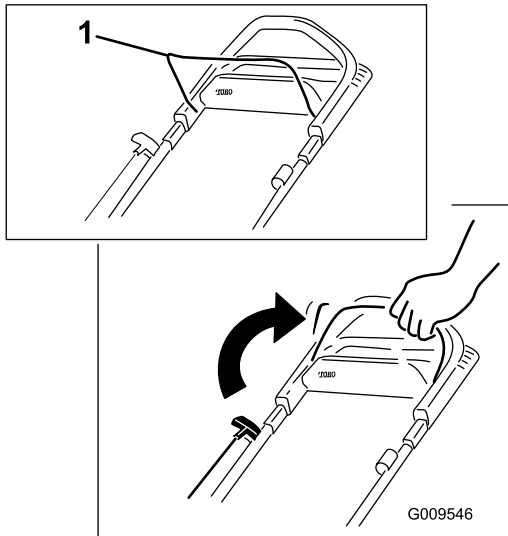

Figure 18
1. Hold the blade-control bar against the handle (Figure 18).